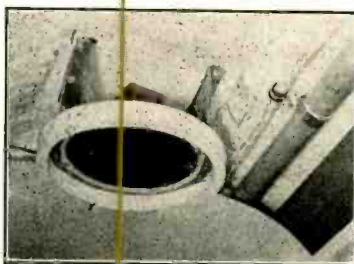

Fig. 3. Details of loudspeaker installation. The speaker may be dropped down for maintenance.
Fig. 3. (A) Losser circuit to provide low-frequency boost. This circuit is usually placed between two high- μ triode stages. (B) Feedback circuit commonly used in preamplifiers to provide required low-frequency boost.
Figure 3 shows two usual ways of providing the required low-end boost to compensate for this characteristic. (A) consists of a losser circuit placed between two high-gain triode stages. This type introduces a loss which increases gradually from zero at zero frequency up to a maximum at the frequency where the reactance of the capacitor becomes a small portion of the total impedance of the shunt circuit across the line. Above this frequency the loss is practically constant. The output voltage for zero frequency is essentially equal to the input voltage; at high frequencies it is approximately equal to $R_2/(R_1 + R_2)$ times the input voltage.